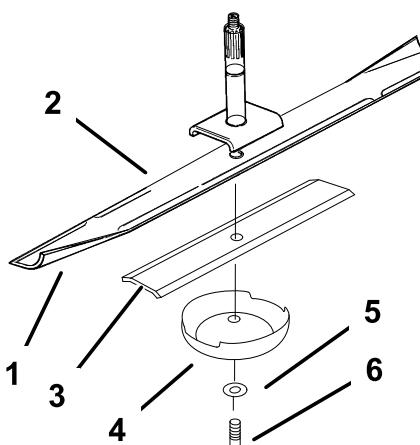
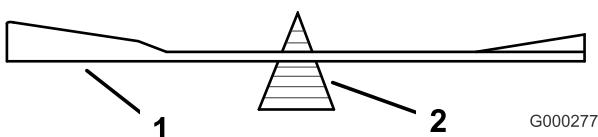

Figure 46
Figure 48
2. Remove the blade bolt, blade stiffener, washer, and blade from the spindle shaft (Figure 46).
1. Install the blade onto the spindle shaft (Figure 46).
- Important:** The sail part of the blade must be pointing upward, toward the inside of the mower to ensure proper cutting (Figure 46).
2. Install the blade stiffener, flat washer and blade bolt (Figure 46).
2. Check the balance of the blade by putting it on a blade balancer (Figure 48). If the blade stays in a horizontal position, the blade is balanced and can be used. If the blade is not balanced, file some metal off the end of the sail area only (Figure 46). Repeat this procedure until the blade is balanced.